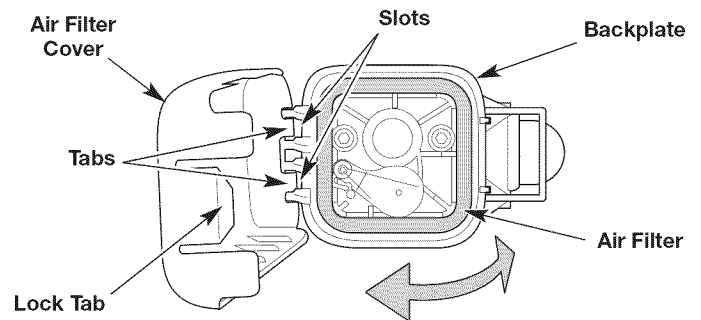

Fig. 13
1. Open the air filter cover: press in the lock tab and swing the air filter cover to the left (Fig. 13).
2. Remove the air filter (Fig. 13).
6. Reinstall the air filter (Fig. 13).
7. Close the air filter cover: insert the tabs on the air filter cover into the slots on the backplate. Swing the air filter cover to the right and press it closed until the lock tab snaps into place (Fig. 13).